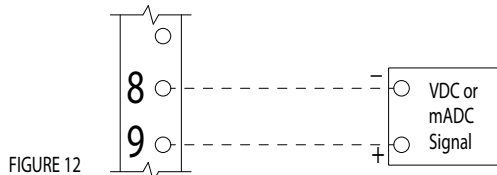

FIGURE 12
- a. Proportional VDC or mADC (See Fig. 12)